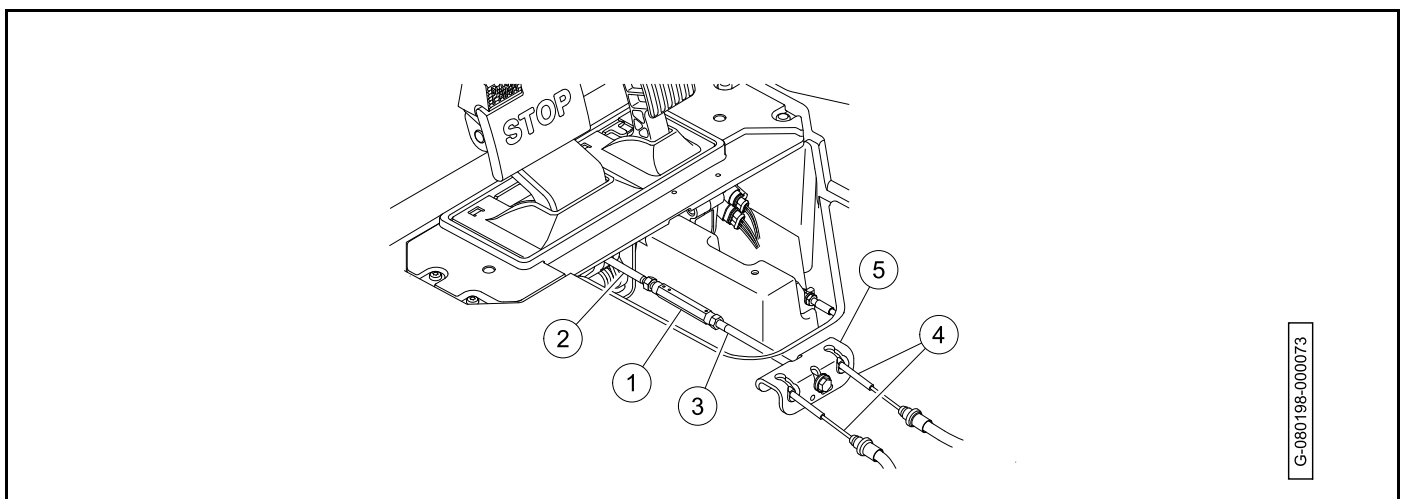

Figure 6-16
18. Remove the turnbuckle (1) (Figure 6-16).